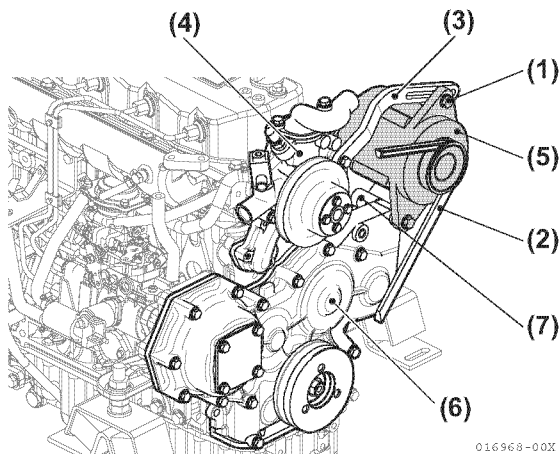

Figure 5-188
- Adjust V-belt tension with the adjuster, and tighten the mounting bolts (**Figure 5-188**).